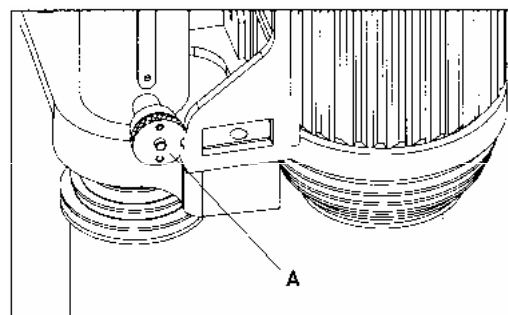

Fig. 3.9
1. Open rear cover of the machine. Rotate lock knob (A) Fig. 3.9, until the hole on the knob engages the pin on the other end of the knob. The knob (A) will then be latched in “lock spindle”.